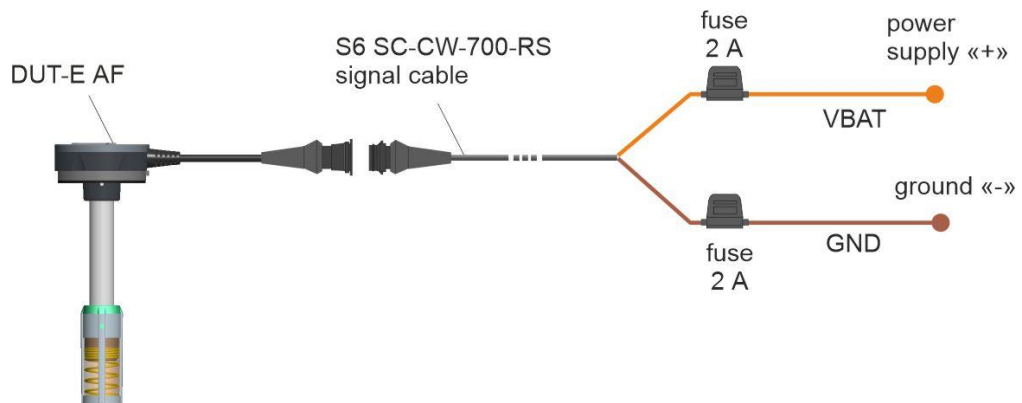

Figure 31 — DUT-E AF to onboard electrical network scheme of connection
- 3) When connecting DUT-E AF to onboard electrical network of Vehicle, use **fuses** from delivery set in accordance to scheme of connection (see figure 31). Nominal fuse current is not more than 2 A.